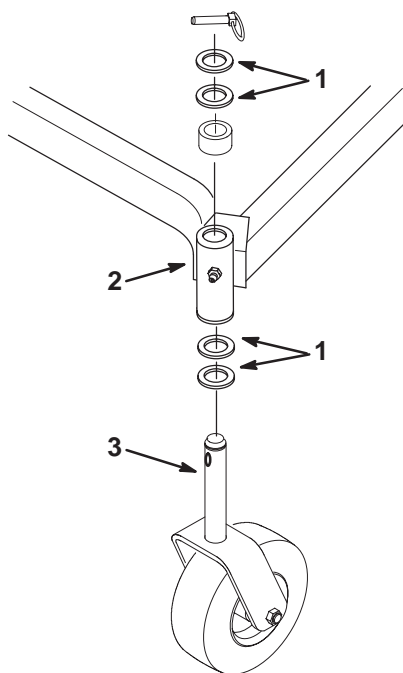

Figure 21
4. To change the front-to-rear pitch, move an equal number of thrust washers on both caster wheel forks. Move the thrust washers from the top of the carrier frame mounting tube to the bottom to raise the front of the mower. Move the thrust washers from the bottom of the mounting tube to the top to lower the front of the mower (Fig. 21).
4. To change the side-to-side leveling, move the thrust washers on one caster wheel fork only. Move the thrust washers from the top of the carrier frame mounting tube to the bottom to raise the corresponding side of the mower. Move the thrust washers from the bottom of the mounting tube to the top to lower the corresponding side of the mower (Fig. 21).